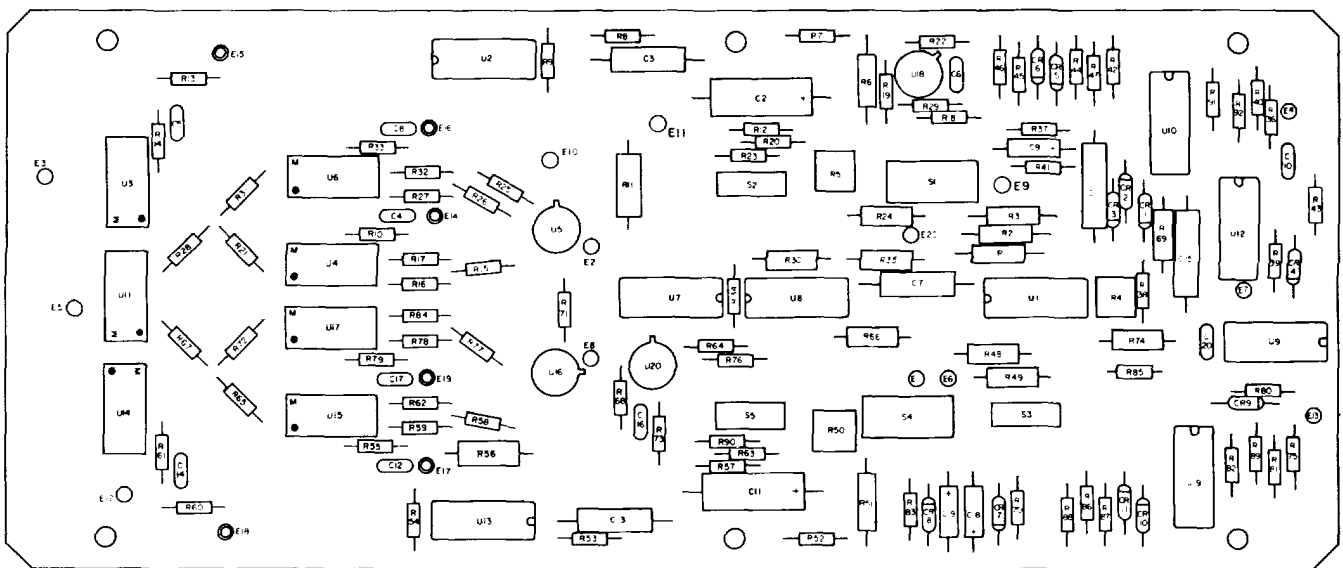

Figure 7-6. Modulation Control Circuit Card Assembly, 1A5A4A1 Parts Location Diagram
f. Modulation Control Circuit Card Assembly (1A5A4A1) Disassembly. To remove the modulation control circuit card assembly, perform the following procedures. Further disassembly should be limited to removal of parts for repair or replacement. Refer to figure 7-6 for location of components to be replaced.
- (1) Remove six screws, washers and electrical spacers holding modulation control circuit card assembly (1A5A2A1) in place.
- (2) Remove the circuit card assembly from modulation control assembly 1A5A4.